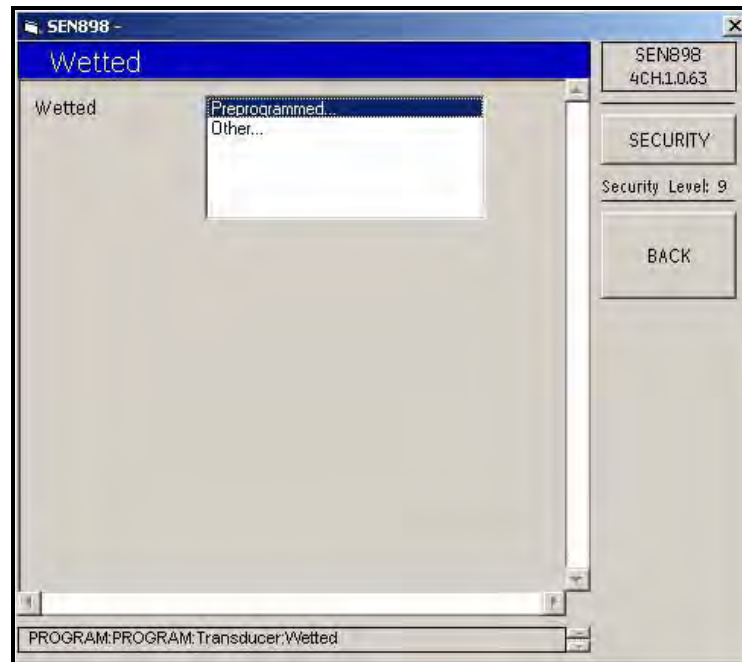

Figure 56: Wetted Transducer Options
12. If Other was selected under Wetted (see Figure 56 on page 79), the following screen appears.